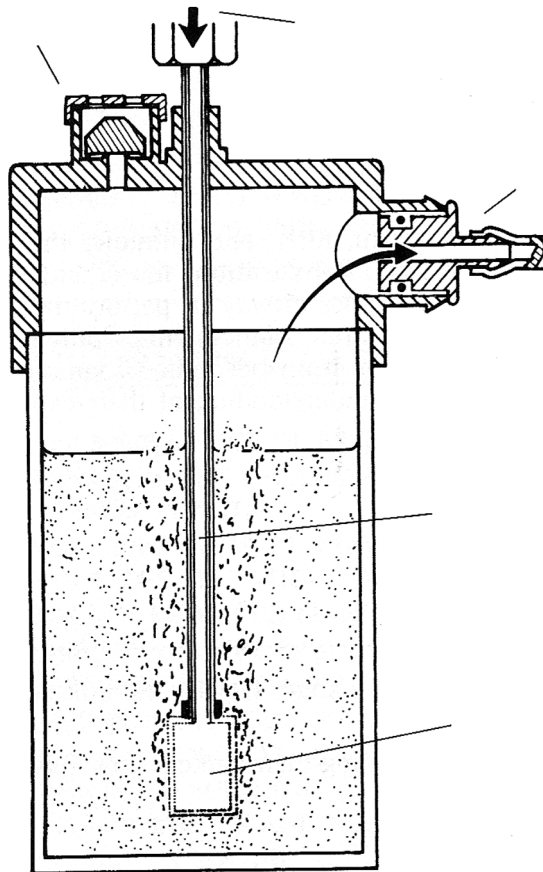

Fig. 1
1. Identify the following parts on a bubble humidifier and label Fig. 1.